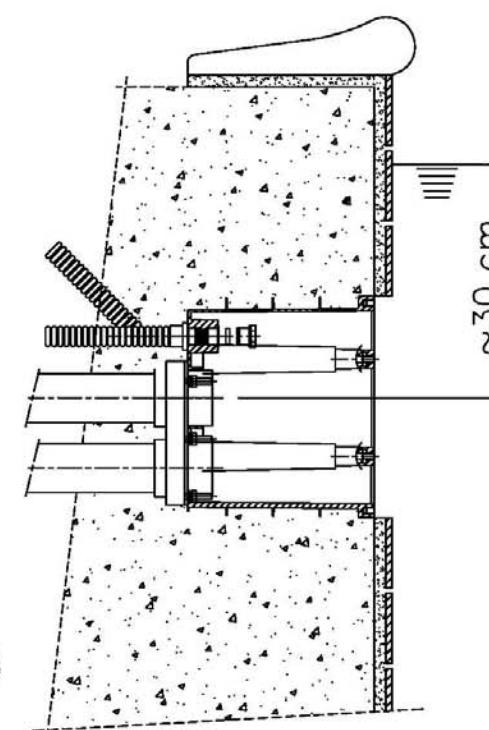

FIG.3
2b. ASSEMBLY OF THE UNIT WITH THE PUMP AT A DISTANCE (Fig.3)
After the pool is built, clean up the housing case (46). The return inlet unit comes with all the necessary fittings. Put the sealing gasket (49) onto the flange connection and screw them tightly onto the housing case from the inside, using the 6 nuts M8 and washers as indicated in (Fig.3).
If you cannot get to the back end of the housing case then the suction and control conduits (18) and (33) must be sealed from inside the housing case. Put the two packing glands PG16 (48) with the seals onto the conduits and pass them through the packing gland holes and protection tubes (assembled before-hand in the housing case. See (Fig.3)). Put the return inlet unit next to the return pipe (46) and before fixing the packing glands slide through the conduits, leaving the least possible length free to fix the packing glands, so that when you introduce the return inlet unit fully into the housing case the conduits (18) and (33) don't bend. Lead the control conduit (33) to the control cabinet and assemble it inside the wall conduit. Put the valve (29) onto the end of the suction tube (18).
Avant d'installer la boîte de scellement il faudra tenir en compte une possibilités de raccordement de la pompe (fig.3)